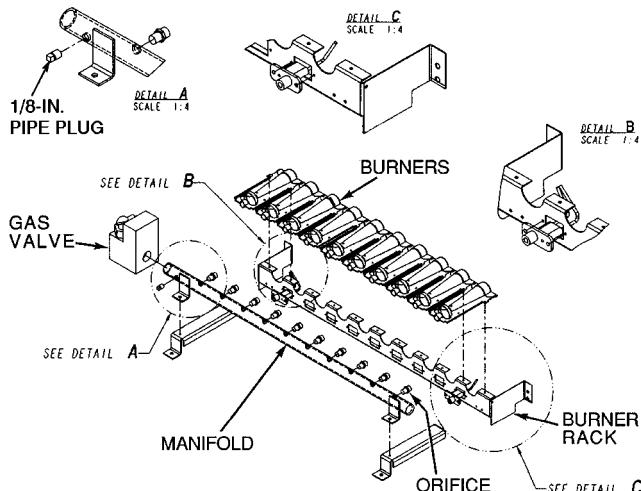

Fig. 38 — Main Burner Removal
A. Main Burner Removal (Fig. 38)